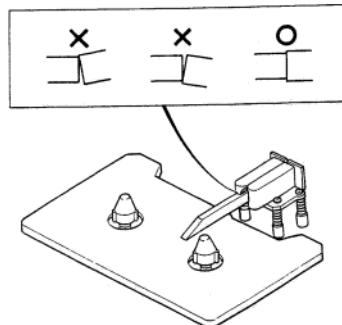

Fig. 4-5
3. Apply jig B to the head as shown in Fig. 4-5, to check tilt. If necessary, adjust screws E and F evenly (until the head is flush with the jig). Rotational amount of both screws E and F should be the same and be limited within 1/8 turn.
- 3). 図4-5 の様に治具Bをヘッドに当てる、チルトを確認し
8. Apply jig B to the head as shown in Fig. 4-5, to check tilt. If necessary, adjust screws A and B *evenly* (until the head is flush with the jig). Rotational amount of both screws A and B should be the same and be limited within 1/4 turn.
8). 図4-5 の様に治具Bをヘッドに当てる、チルトを確認しヘッドが治具Bに対して垂直になる様にねじA、Bを同量(1/4回転以下)回し調整する。